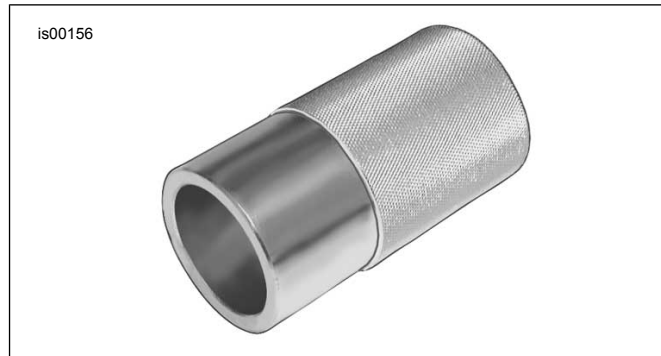

Figure 2. Fork Seal/Bushing Tool (HD-34634)
10. If necessary, obtain new slider bushing (K) (45940-84, not included). Coat slider bushing ID with clean fork oil. Slide slider bushing (K) down fork tube.
11. Slide seal spacer (J) down fork tube until it contacts slider bushing. Ensure flange surface of seal spacer is facing up.
12. Obtain new fork oil seal (I) (45875-84A, not included). Coat fork oil seal ID with clean fork oil. With the lip garter spring side facing down (toward the fork slider), slide oil seal down fork tube until it contacts slider spacer (J).
13. See Figure 2. Obtain the FORK OIL SEAL INSTALLER (HD-34634) and proceed as follows: